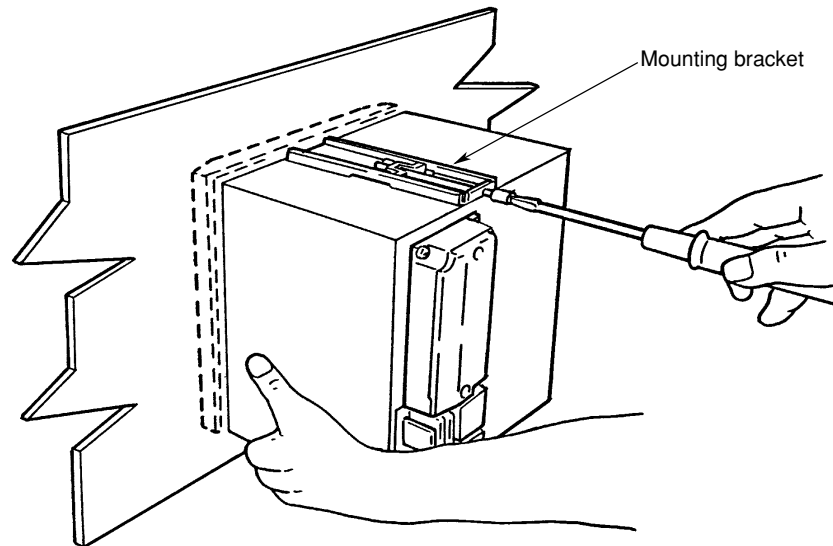

Figure 3.1 Mounting
- 3 Hold the bottom of the μ R1800 and mount it on the panel using the mounting brackets supplied, as shown in figure 3.1. (If still in place, remove the seals covering the holes for the mounting brackets.)